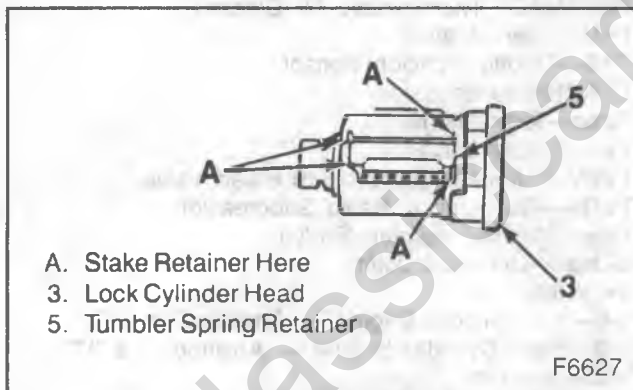

Figure 34—Installing Spring Retainer
- b. Without the numerical key code or without a code list, refer to figure 34.
5. Insert the spring retainer so that the end prongs slide into the slots at each end of the cylinder (figure 34). Press the retainer down.
8. Stake the spring retainer securely in place at each end. Use a suitable staking tool and stake the cylinder metal over the retainer (figure 34).